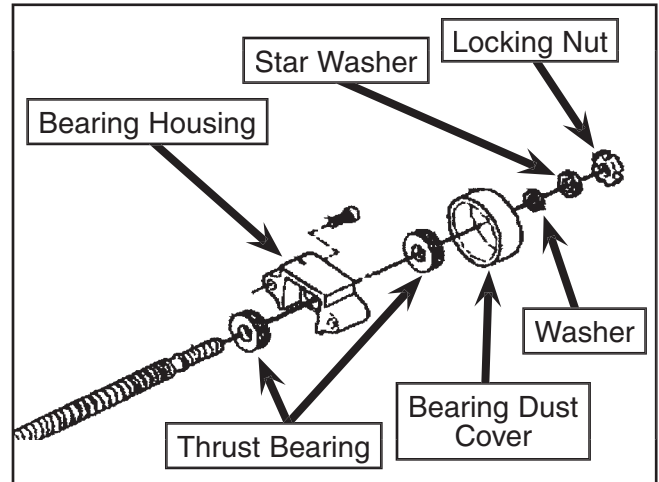

Figure 2. Cross Lead Screw components.
*At this time, please examine the end of the cross lead screw to see if its configuration matches that shown in **Figure 2**. If it does not, this taper attachment will not work unless you purchase a new cross slide assembly. Contact Grizzly for part numbers and order information. Also refer to the Parts List contained in the G4016 Lathe Instruction Manual for comparison.*